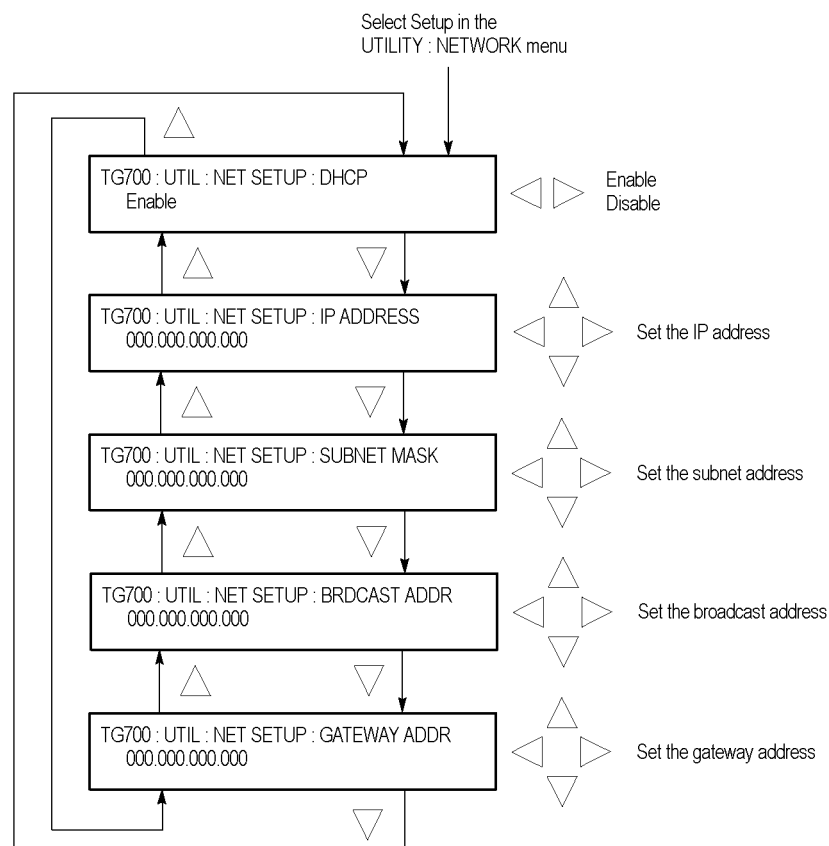

Figure 30: NETWORK SETUP submenu
4. Use the left (◀) or right (▶) arrow button to select **Setup**. This accesses the NETWORK SETUP submenu. (See Figure 30 on page 71.)